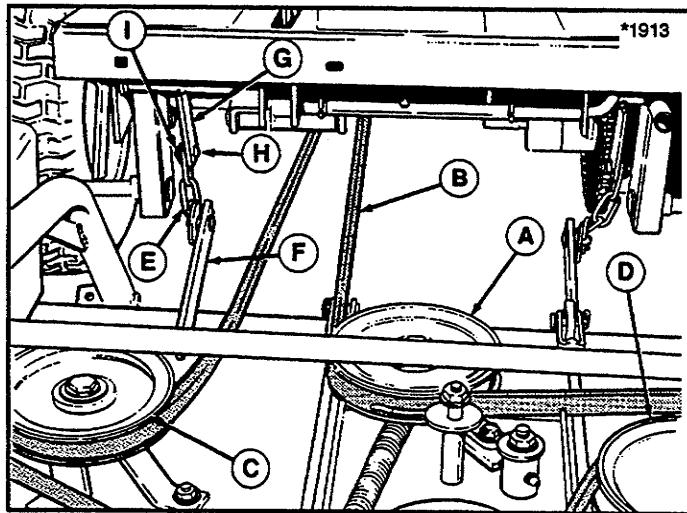

Figure 9. Removing Belt Tension
7. See figure 9. Connect top link of chains (E) to weld studs and secure with washers and cotter pins.
8. Install belt on right-hand and left-hand idler pulley by pulling on spring-loaded idler pulley (A, figure 9).
To avoid personal injury, use caution when moving spring-loaded pulley (A, figure 9). Spring tension is strong. Do not remove belt (B) from spring-loaded idler pulley (A). Remove belt from left and right idler pulleys (C & D).
Use caution when moving spring-loaded pulley (A, figure 9). Spring tension is strong. Do not remove belt (B) from spring-loaded idler pulley (A). Remove belt from left and right idler pulleys (C & D).
4. See figure 9. To remove chains from rider lift arms, remove cotter pins (I) and washers from weld studs (H). Replace washers and pins on weld studs.